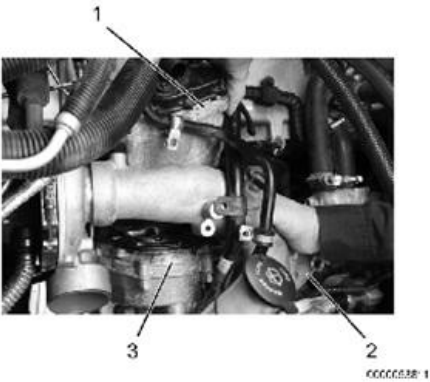

Figure 6. CCOS Housing.
21. Remove three CCOS housing bolts from CCOS housing (Figure 6, Item 1) and oil jet plate (Figure 6, Item 3). Retain bolts for re-use
**NOTE: While pulling out on the HP turbocharger inlet duct, maneuver and remove the CCOS housing up and out (Figure 6).**
22. While pulling out HP turbocharger inlet duct (Figure 6, Item 2), remove CCOS housing (Figure 6, Item 1) from oil jet plate.